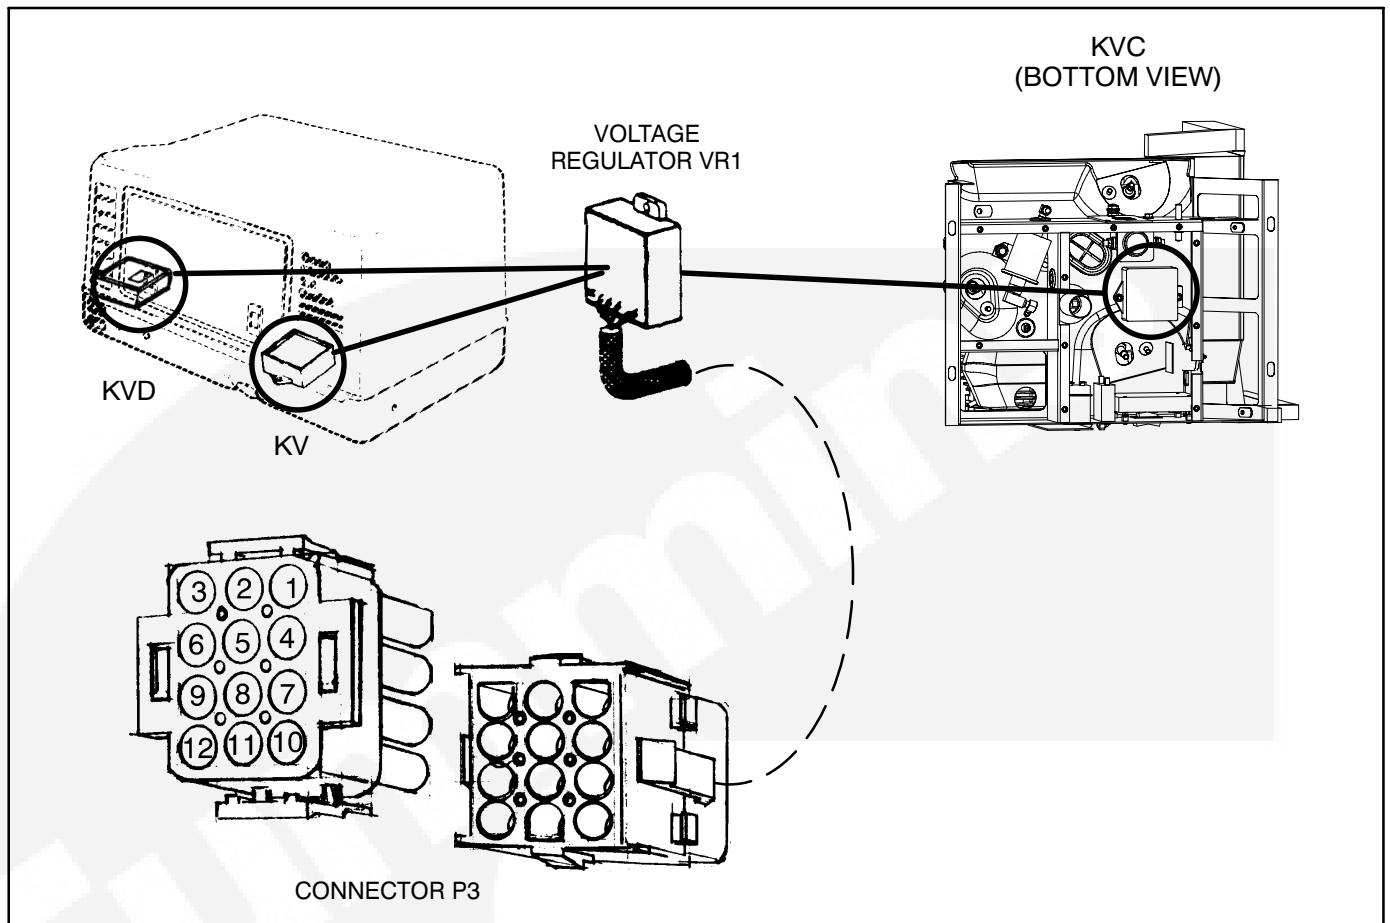

FIGURE 9-2. VOLTAGE REGULATOR LOCATION AND CONNECTOR P3
1. Disengage the wiring connector and remove the voltage regulator (Figure 9-2).
2. With the meter on *Diode Check*, test between connector terminal pairs 5-9, 7-9, 10-9, 11-9, 12-9, 10-5, 5-11, 5-12 and 5-3. (Figure 9-2). It is important that the positive lead of the meter be connected to the first terminal of each pair.
Connect a DC voltmeter positive (+) test lead into the voltage regulator plug (P1) at pin 9 and connect the negative (-) test lead into the voltage regulator plug at pin 10. The voltage regulator plug remains connected to the voltage regulator and test prods should be secured so that they are not being held during testing. See Figure 9-2.